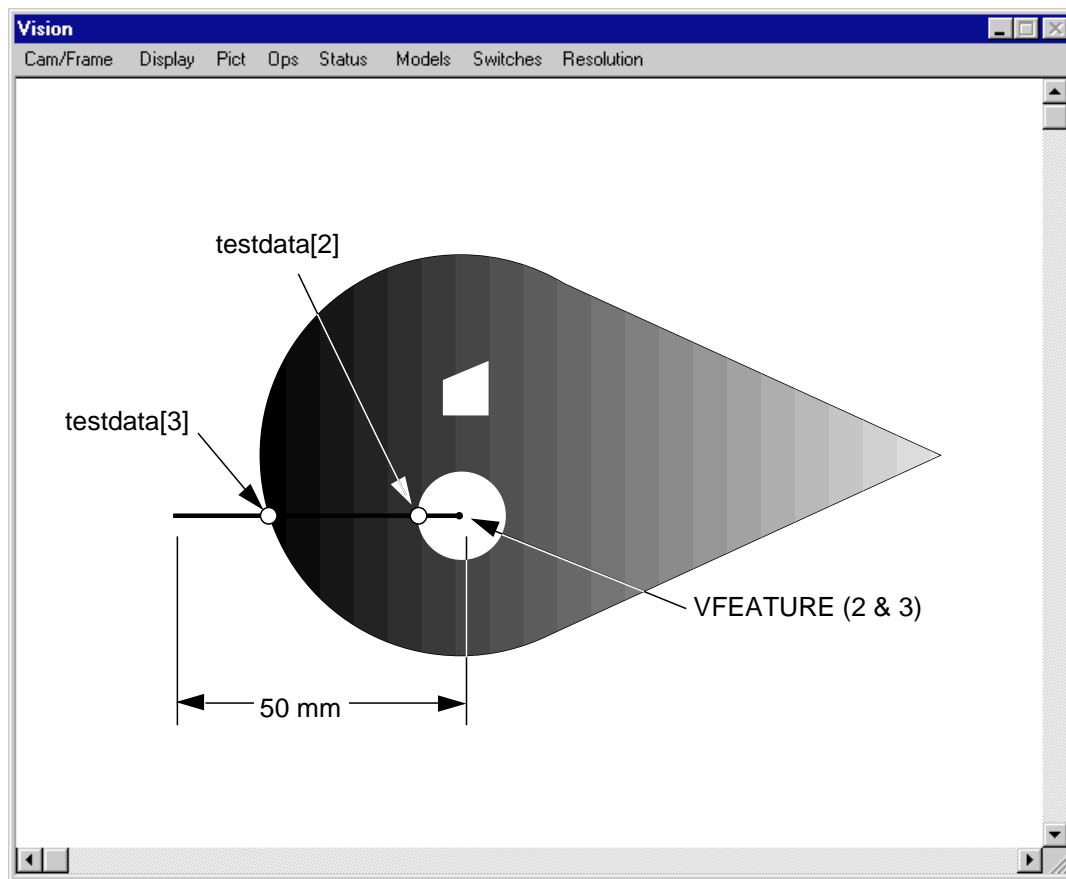

Figure 10-5. Linear Ruler Example
**Figure 10-5** illustrates the preceding code example.